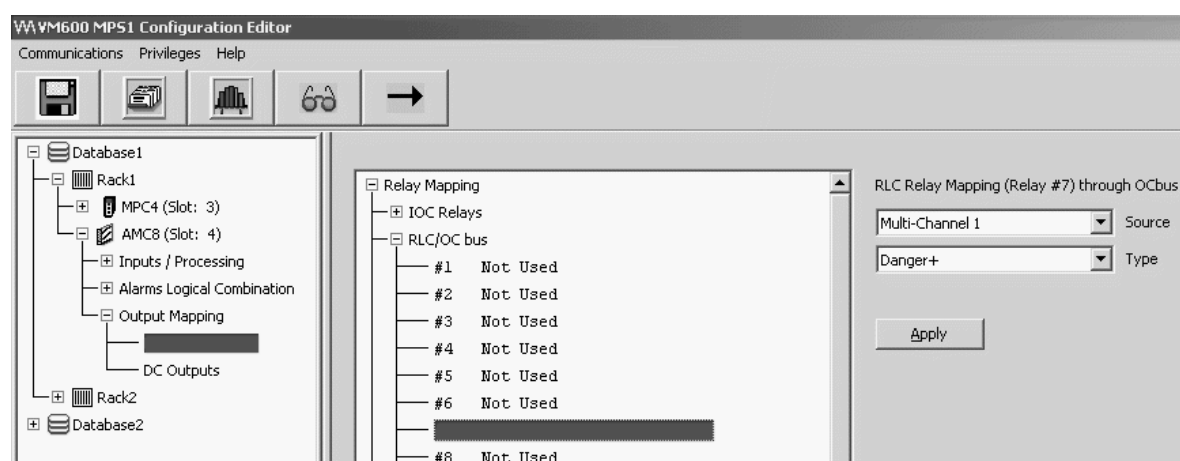

Figure 10-13: VM600 MPSx software window to configure the OC Bus
- 4- Using the VM600 MPSx software, select the **Discrete Outputs** node (a child of the **Output Mapping** node) in the tree structure (left). Then expand the **RLC/OC bus** node in the main window (right) and select the relay in question (between 1 and 16). See Figure 10-13.
The user must then use the VM600 MPSx software to select Relay 7 from the 16 relays available in the **RLC/OC bus** node. Then, the Danger+ alarm for Multi-Channel 1 can be assigned to this relay (see Figure 10-13).